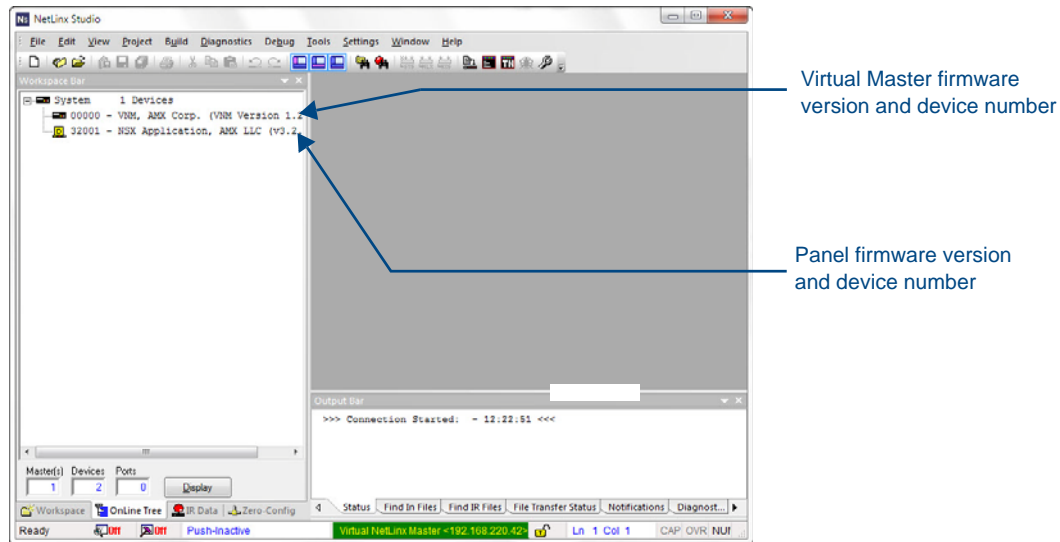

FIG. 29 NetLinX Workspace window (showing panel connection via a Virtual NetLinX Master)
1. After the *Communication Verification* dialog window verifies active communication between the Virtual Master and the panel, click the **OnLine Tree** tab in the Workspace window (FIG. 29) to view the devices on the Virtual System. *The default System value is 1.*
2. Right-click on the System entry (FIG. 29) and select **Refresh System** to re-populate the list. Verify the panel appears in the **OnLine Tree** tab of the Workspace window.